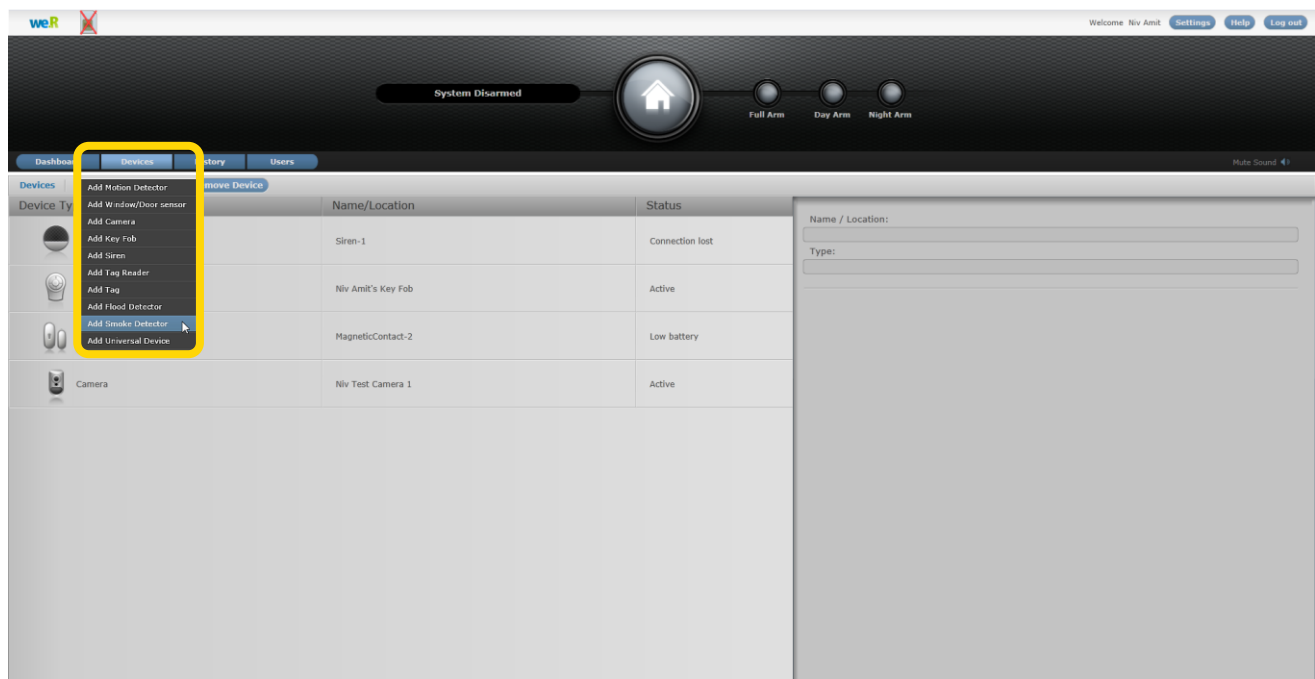

Figure 133: Add Smoke Detector Device Utilizing Web Application
1. Prepare two (2) AA-size Alkaline batteries required to power the Smoke Detector.
5. Click over the menu's **Add Smoke Detector** option of the menu as illustrated in Figure 133 below: